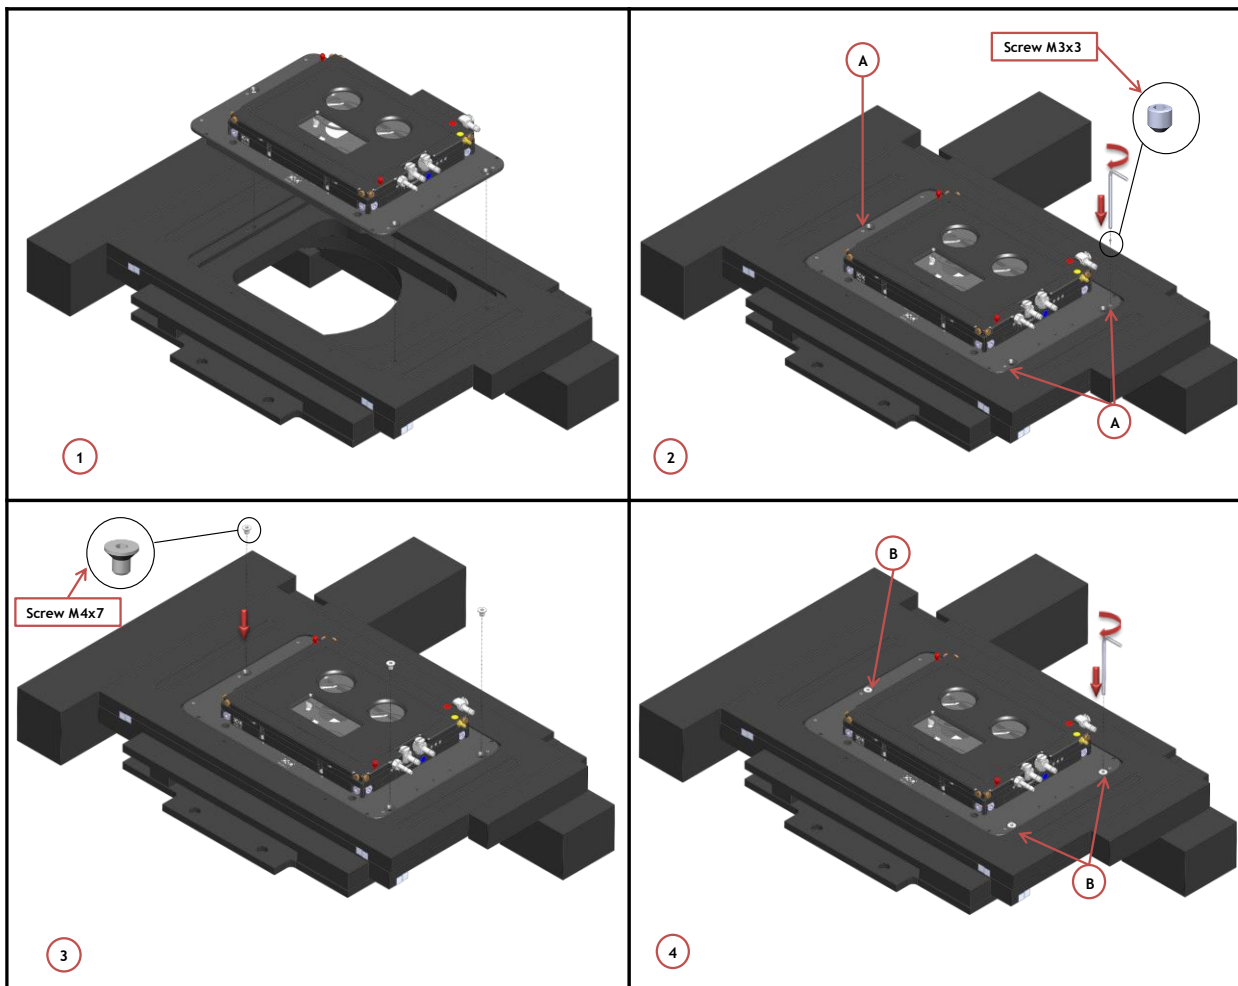

Figure 18. Connecting the Chamber with XY Stage
Once you have assembled the chamber with adapter you can place it on the XY stage, following the steps shown in Figure 18.
1. Place the adapter on the stage (See Figure 18 Image 1).
2. Use the Grub screws to align correctly the adapter on the stage. Grub screws housings are indicated with letter A in Figure 18 Image 2.
3. Follow the arrows shown in Figure 18 Image 3 for placing flat socket head cap screws; use the provided Allen wrench to tighten the flat socket head cap screws and fastening the adapter on the stage. Screws housings are indicated with letter B in Image 4 of Figure 18.